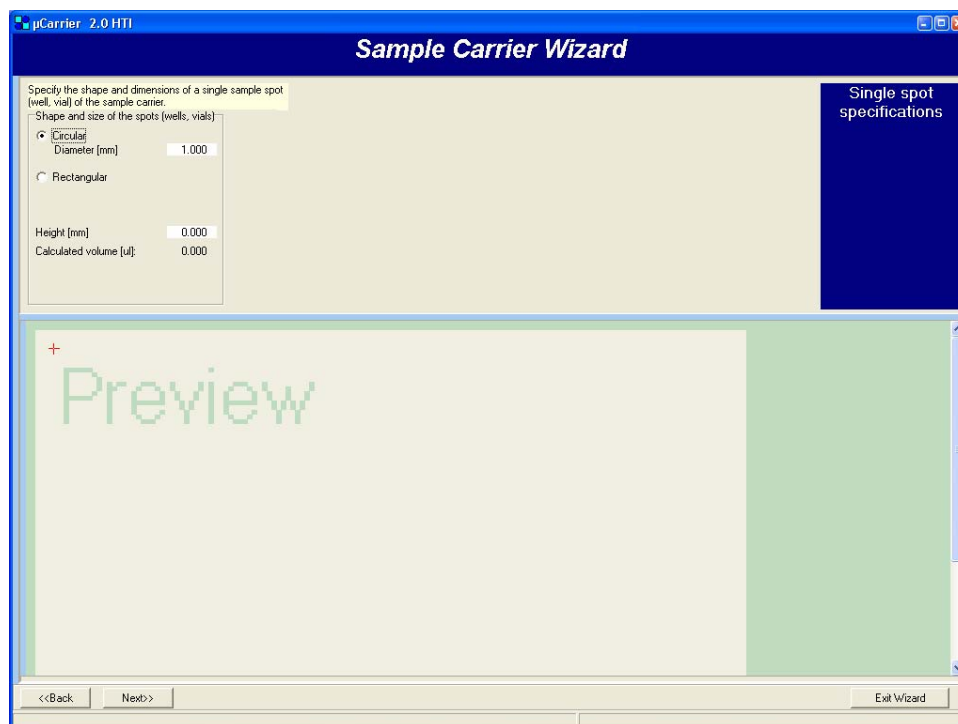

FIGURE 2-23 Sample Carrier Wizard - Single Spot Specifications
- d) In the first step (FIGURE 2-23) the spot geometry (e.g. diameter or size and height) will be defined. Indicate the appropriate shape and dimensions of the